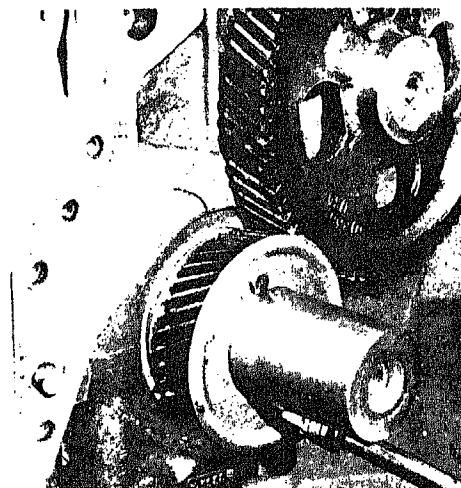

Fig. 0-48. Removing oil slinger capscrews N20023
1. Since the crankshaft oil slinger partially covers the camshaft gear, remove slinger mounting capscrews and lockplates, Fig. 0-48, and remove slinger from crankshaft; discard lockplates.